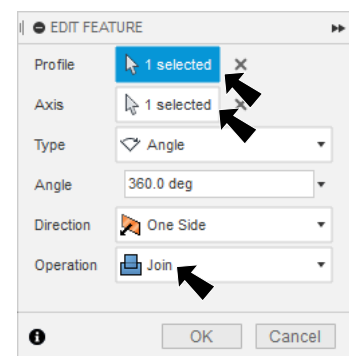

Fig. 30
Step 14. In the Edit Feature panel set, **Fig. 30**